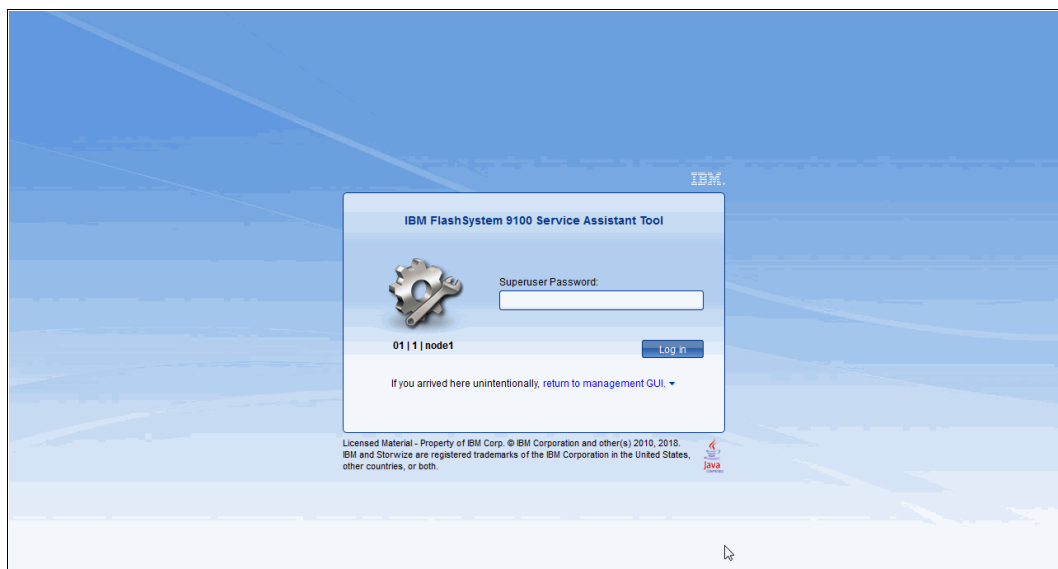

Figure 5-30 Service Assistant Login screen
1. Sign into the Service Assistant (Figure 5-30) on the main Control Enclosure, then change the new node’s status to Candidate.